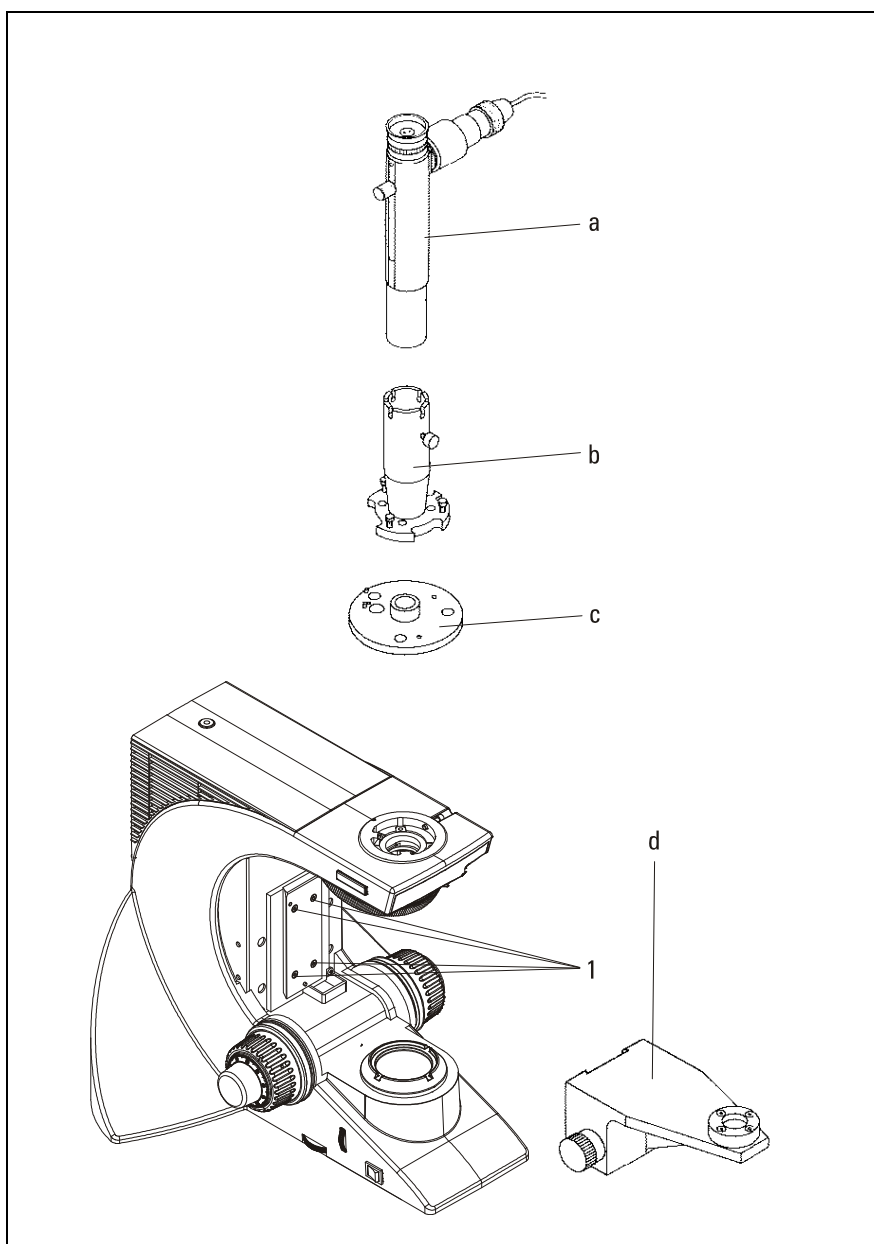

Figure 13: Dovetail plate, service tools
4. Unscrew the 4 screws, see figure 13, position 1.
4. Tighten the 4 screws, see figure 13, position 1.